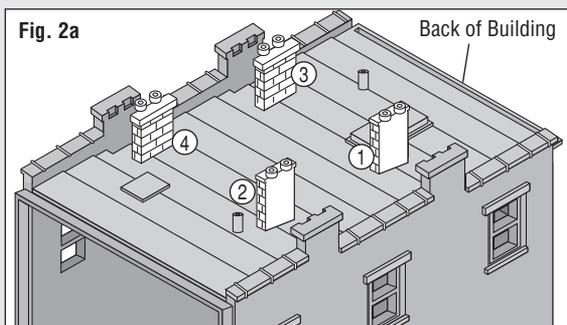

Fig. 2a
- Glue in the following order, Right-side Rear Chimney ①, Right-side Front Chimney ②, Left-side Rear Chimney ③ and Left-side Front Chimney ④ (**Fig. 2a**).